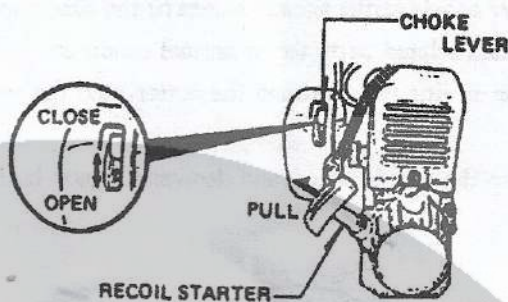

Fig. 10
- 3) Set the choke lever to CLOSE. (Fig. 10)